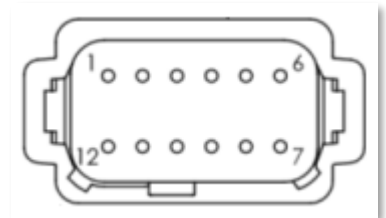

Figure 9: Connector J1
4. Power and CAN lines will need to be connected to the J1 connector on the back of the display modules. See Figure 9 shows the pin numbers on J1. Connect power and CAN lines as follows: